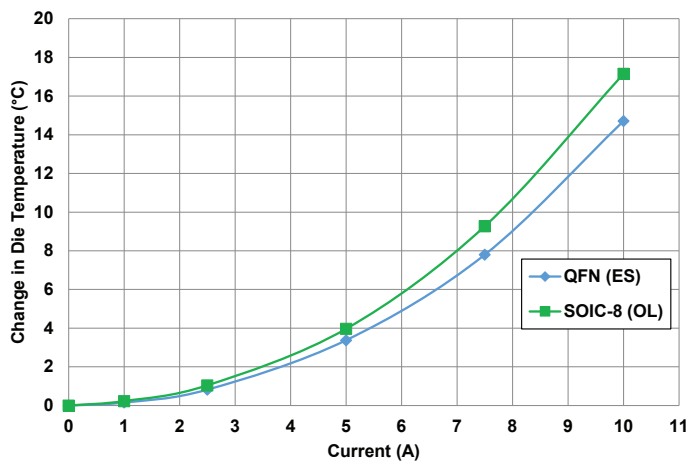

Figure 6: Change in die temperature versus current of the ACS70331 on the ASEK70331 demo board (1-oz. copper) with 22 gauge connectors to the power supply
The ACS70331 has a small primary conductor resistance of 1.1 mΩ (ES) and 1.7 mΩ (OL), resulting in low power dissipation and consequently low temperature rise due to current flow through the sensor. Figure 6 shows the steady-state die temperature rise versus current of the ACS70331 on the Allegro demo board (ASEK70331), which has two layers of 1-oz. copper. At 5 A, the die temperature only rises around 4°C. At 10 A, the die temperature increases by around 16°C, meaning that at the maximum ambient temperature of 85°C with the maximum rated continuous current of 10 A flowing, the die would be around its maximum rated junction temperature of 100°C.